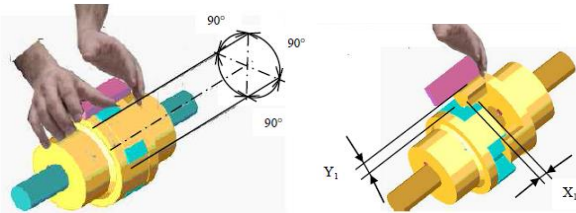
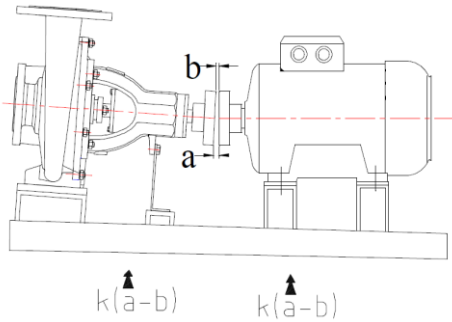

Figure 5: The Control of the Coupling Alignment in Horizontal and Vertical Planes
Figure 7: Angular Misalignment in Vertical Plane and Its Correction
1.Paralel Axis Misalignment (Figure 5-Figure 7)